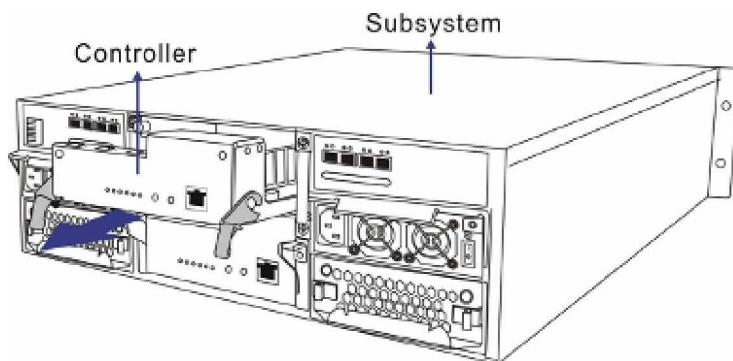

Figure 5-3: Pull the Controller Module Out
Step 4. Gently pull the controller module out of the subsystem. (See *Figure 5-3*) Place the controller module on a clean surface.